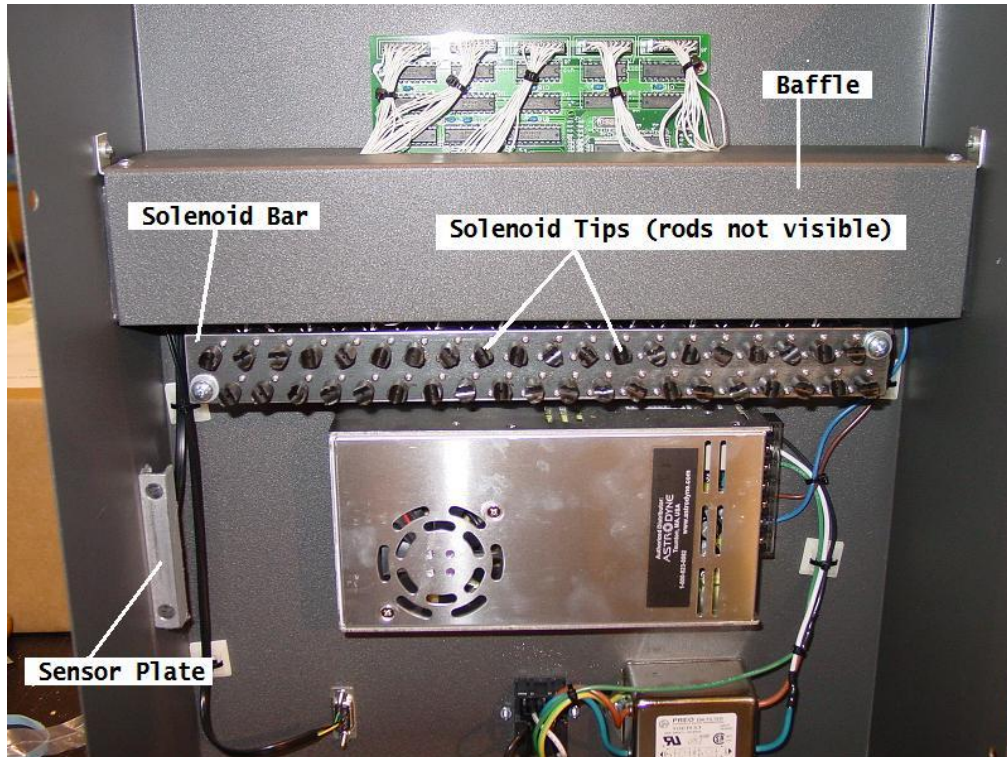

Figure 1 - CompuDobby III – Interior View
3. Remove the Baffle from the Box by removing the two small screws at either side of the exterior housing. *See Figure 1.*